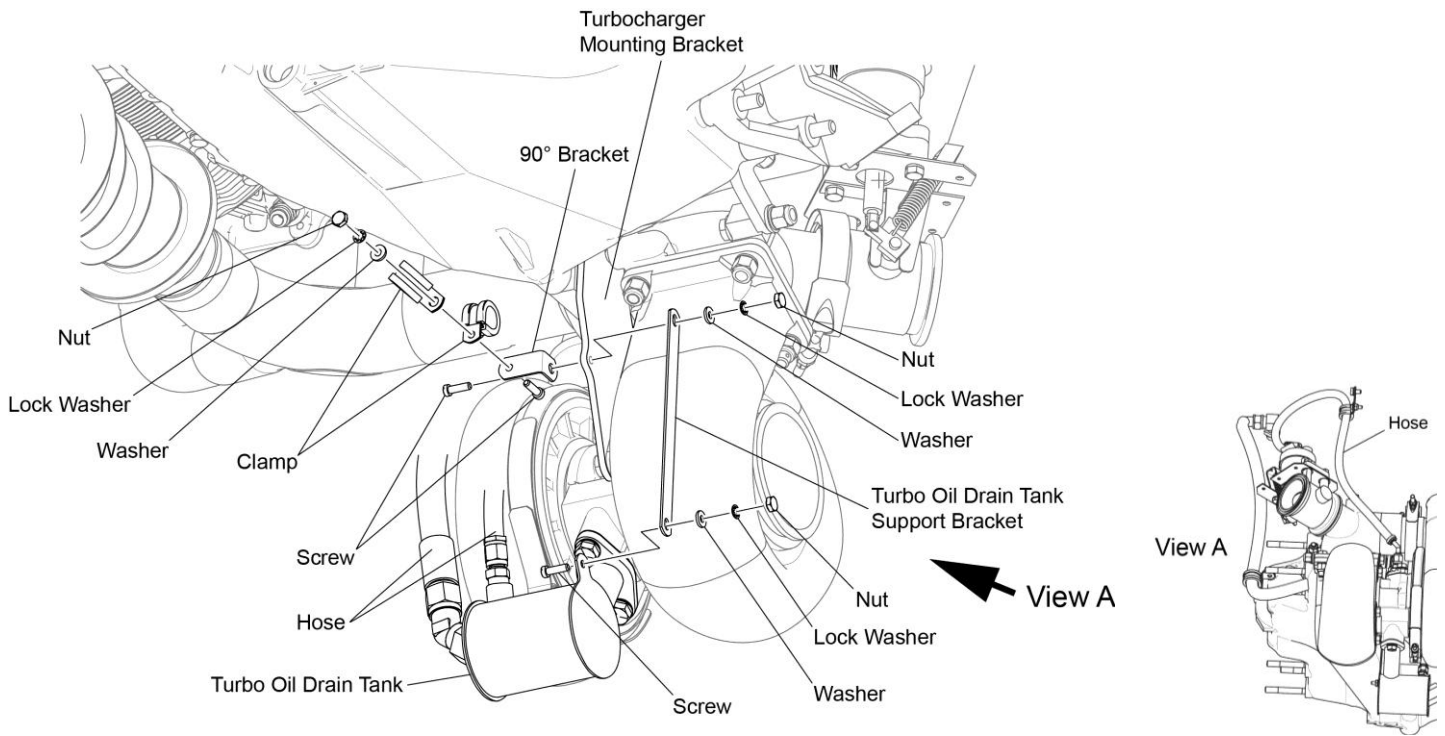

Figure 7
12. Disconnect and put a cap on the two hoses connected to fittings on the turbo oil drain tank (Figure 7) and the hose connected to fitting on the turbocharger (Figure 7 - View A).
In the next step, keep the 90° bracket (Figure 7) and clamps attached to the hoses.
14. Remove the screw, washer, lock washer, and nut from the portion of the 90° bracket that attaches to the turbo oil drain tank support bracket and turbocharger mounting bracket (Figure 7). Discard the lock washer.
11. Install the screw, washer, and new self-locking nut that attaches the turbocharger oil drain tank support bracket, and 90° bracket with the clamps attached, to the turbocharger mounting bracket (Figure 7). Torque the clamps to 49 in.-lb. (5.5 Nm).
18. Remove the caps from the three hoses. Connect one hose to the turbocharger (Figure 7 - View A) and the other two hoses to the turbo oil drain tank (Figure 7).